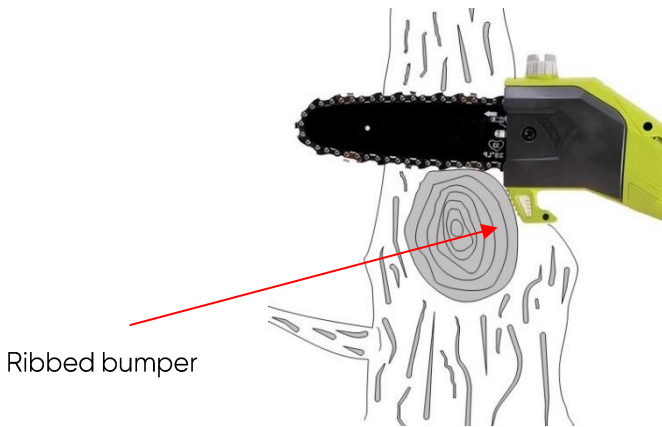

Fig. 21
- Rest the guide bar on the branch to be cut, no closer than 10 cm away from the trunk and press it lightly so that the ribbed bumper also touches the branch (Fig. 21)